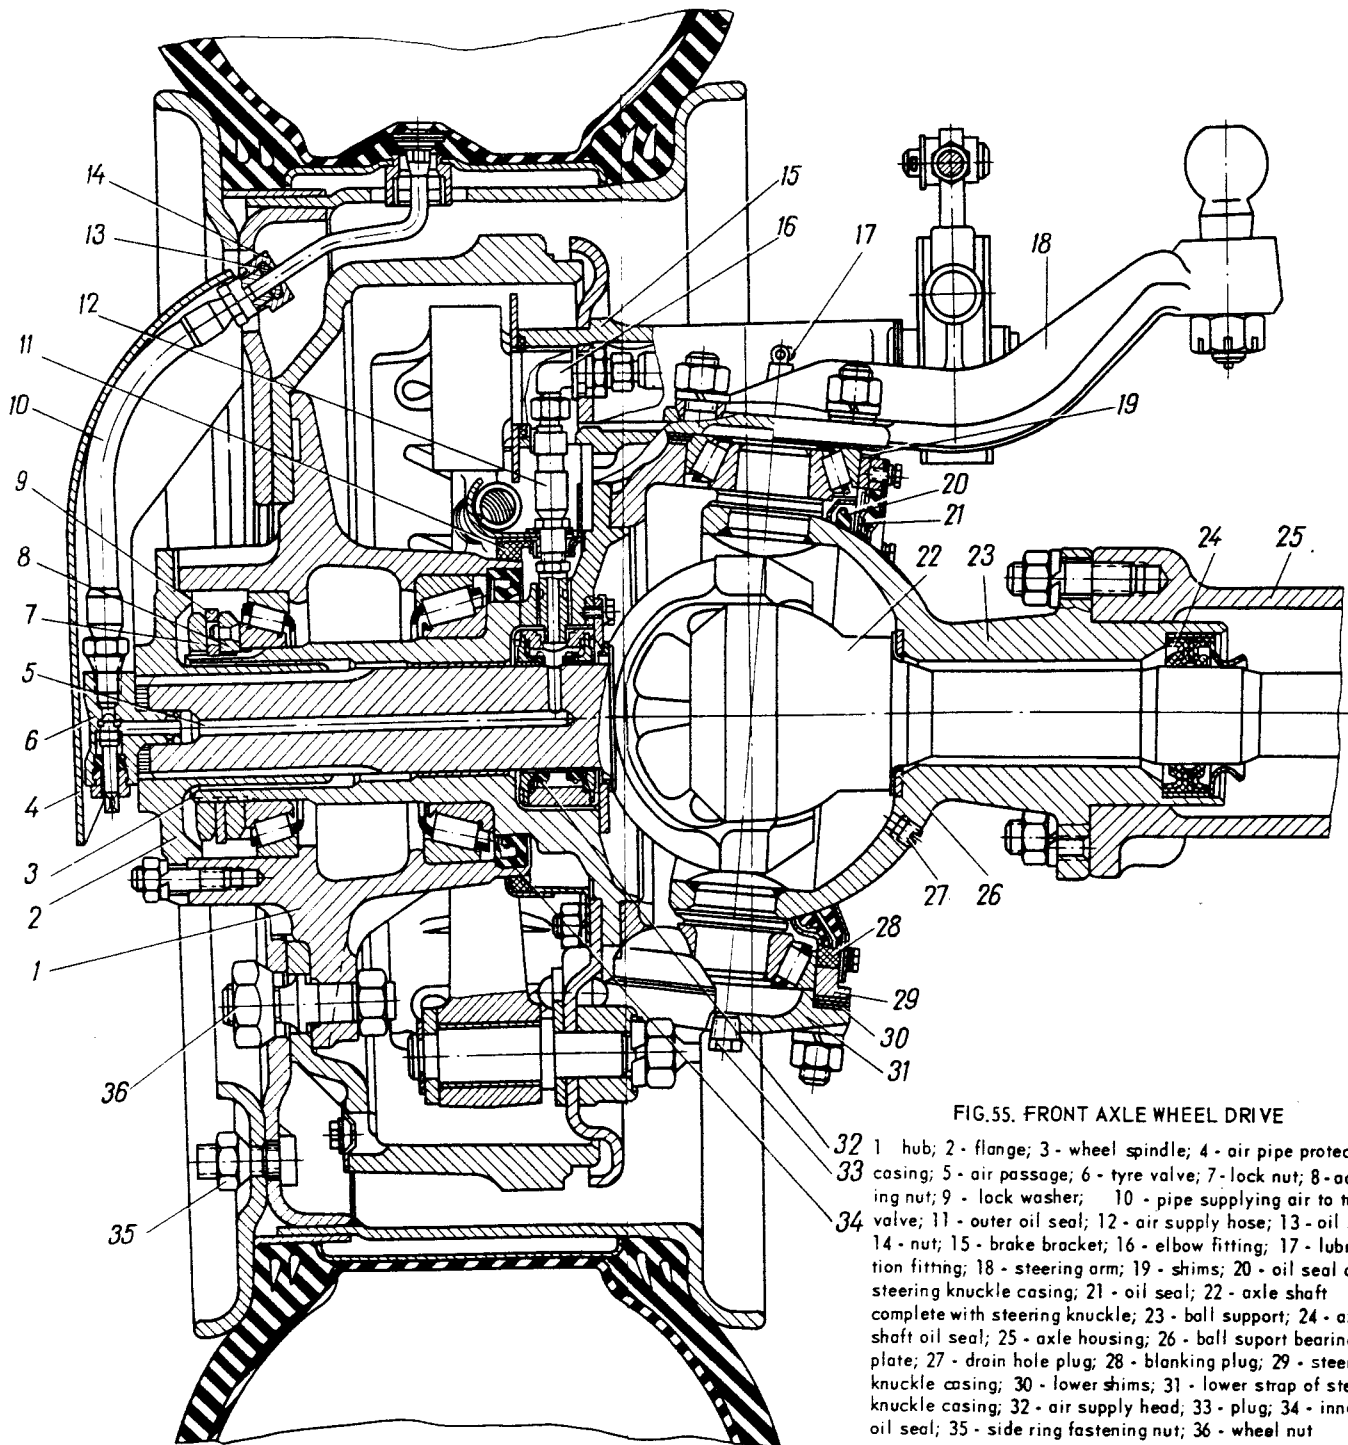

FIG.55. FRONT AXLE WHEEL DRIVE
1. Close tyre valves 6 (Fig.55) on all the wheels.
1. Close tyre valves 6 (Fig.55) of all the wheels.